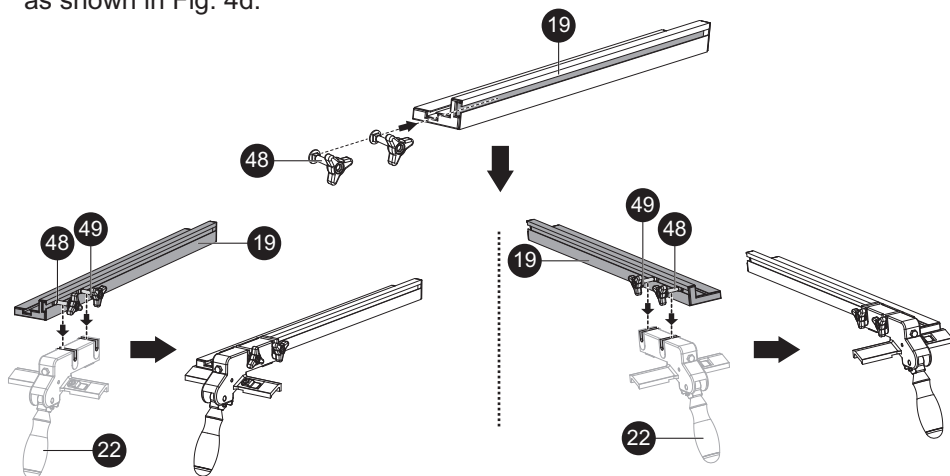

Fig. 4d
- > When cutting a slim workpiece, attach rip fence locking handle to the rip fence as shown in Fig. 4d.